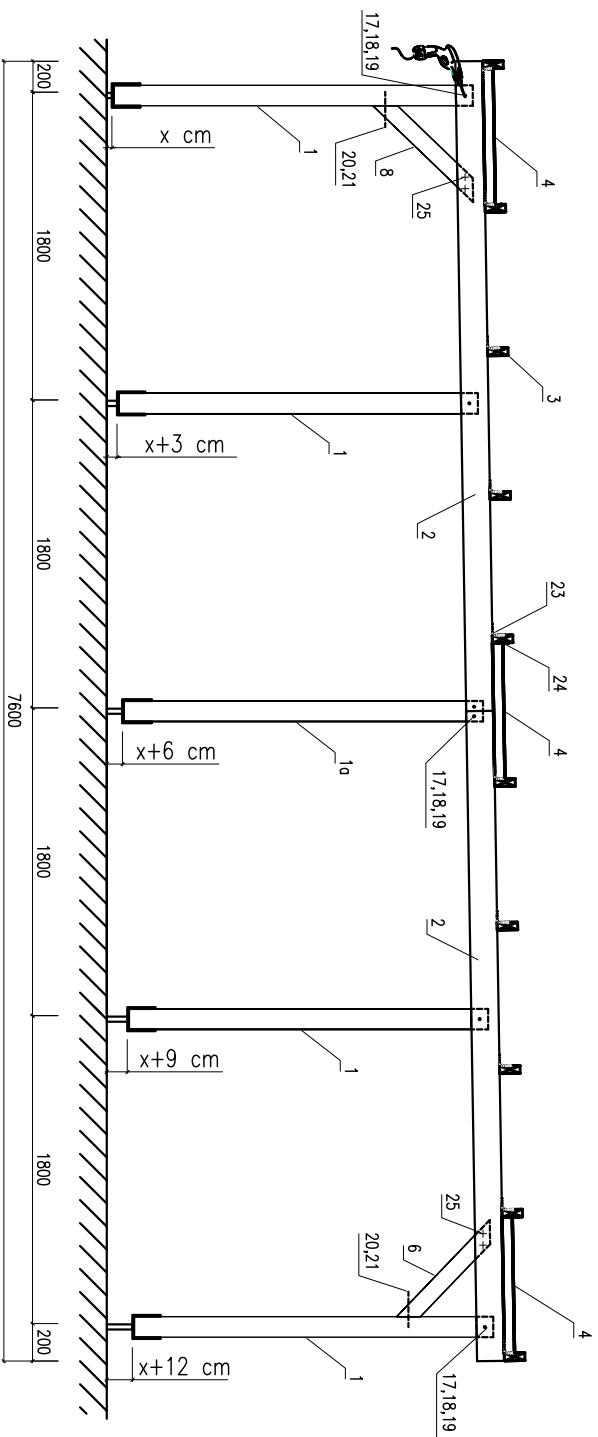

Fig. 2
- a) by placing the beam support brackets at different heights (see Fig. 2)
Then install the support components (Pos. 4). See the location of components from Fig. 2 and Fig. 3. Fix with squares (Pos. 24).